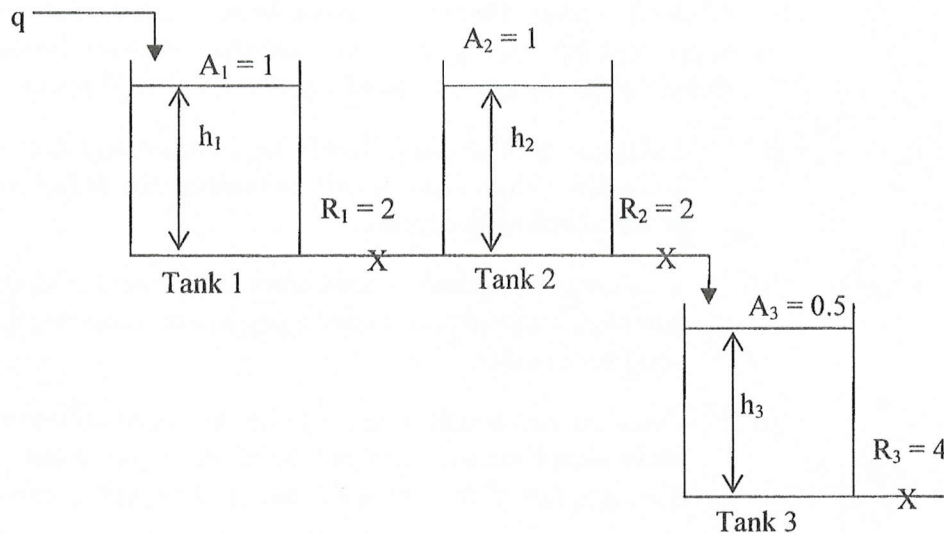

Figure Q.2 : Three-tank system.
2. [a] [i] Find the transfer functions $\frac{H_2}{Q}$ and $\frac{H_3}{Q}$ for the three-tank system shown in Figure Q.2. H_2 , H_3 and Q are deviation variables. Tank 1 and Tank 2 are interacting